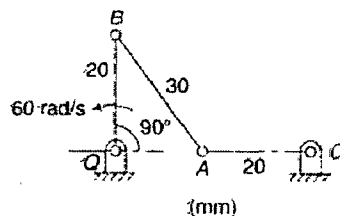

Figure 4
- 14b A four bar mechanism is shown in *Figure.4*.